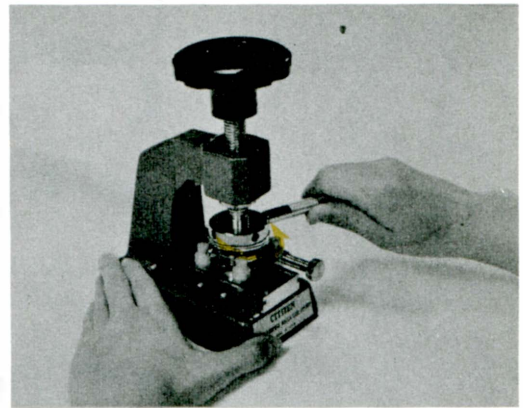

Fig. 3
(1) Remove the case back.
- Use the Citizen Multi-Purpose Watchcase Opener (Fig. 3).